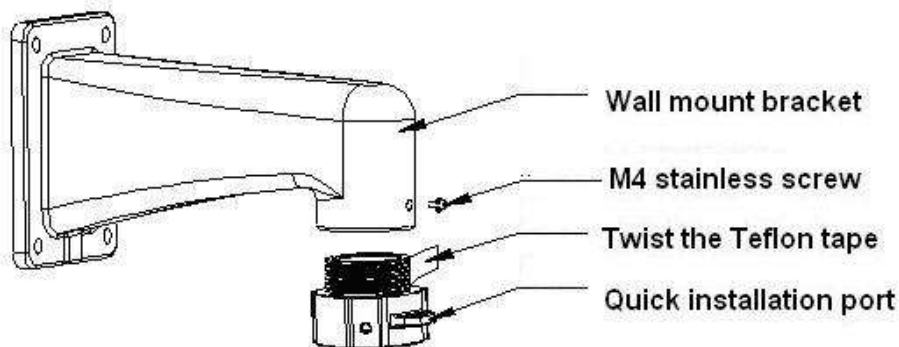

Figure 2-4
3. Now you can install the quick installation port. Please twist the Teflon tape around the screw thread of the quick installation port and turn it into the screw thread of the wall mount bracket. Use M4 stainless screws to secure firmly. See Figure 2-4.